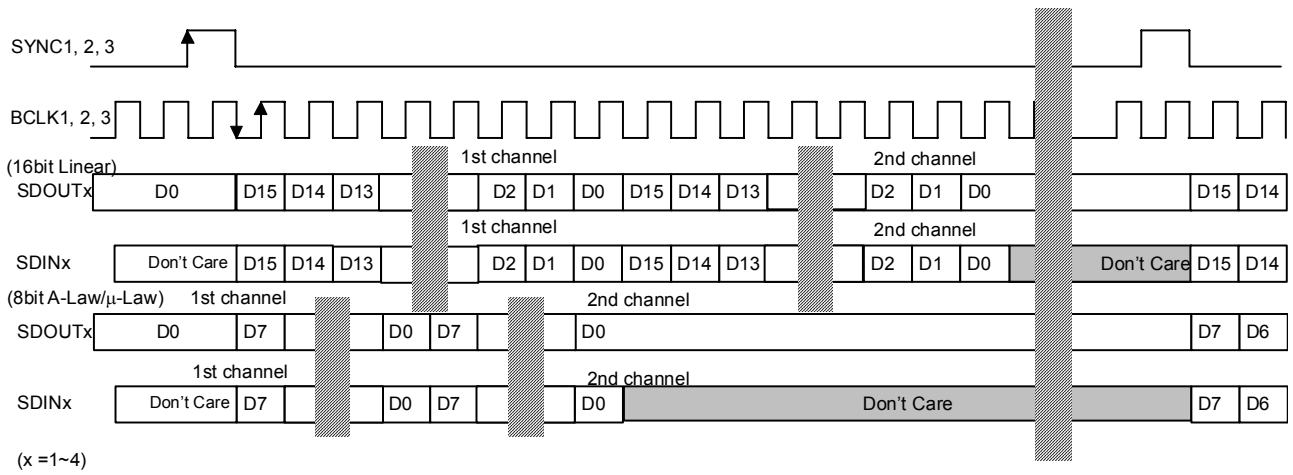
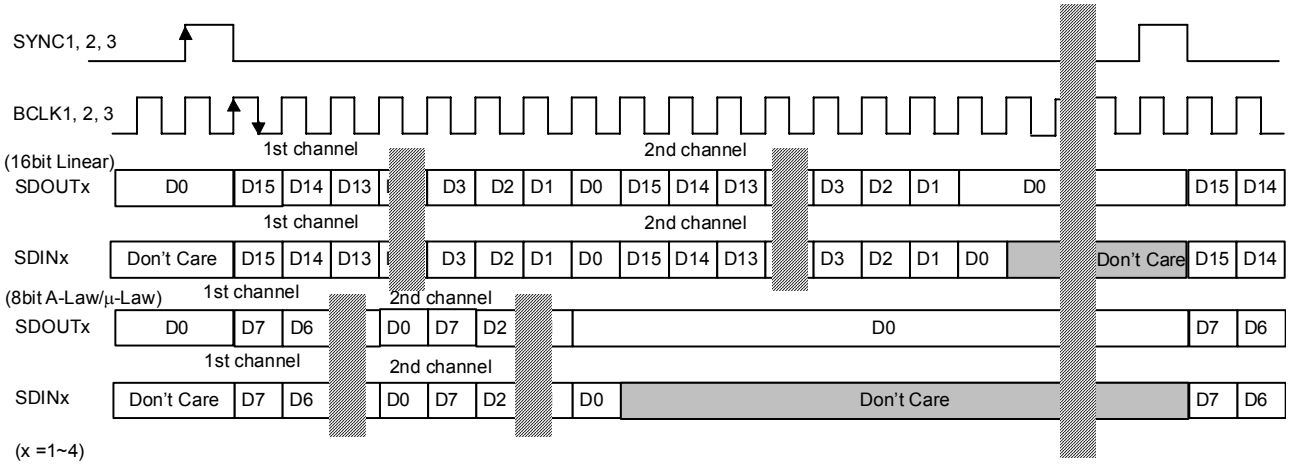
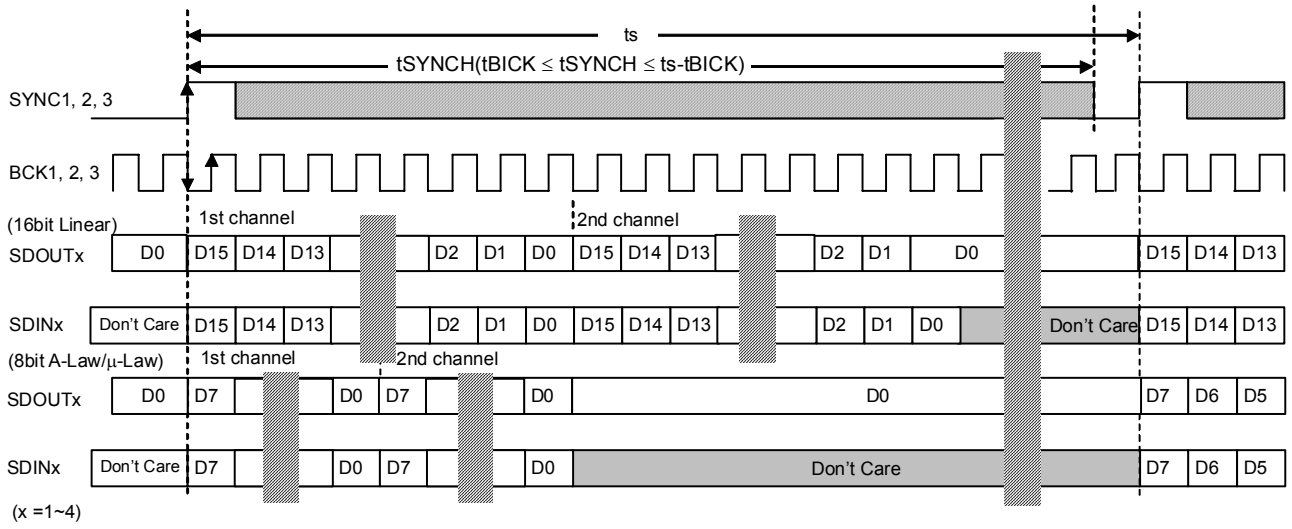
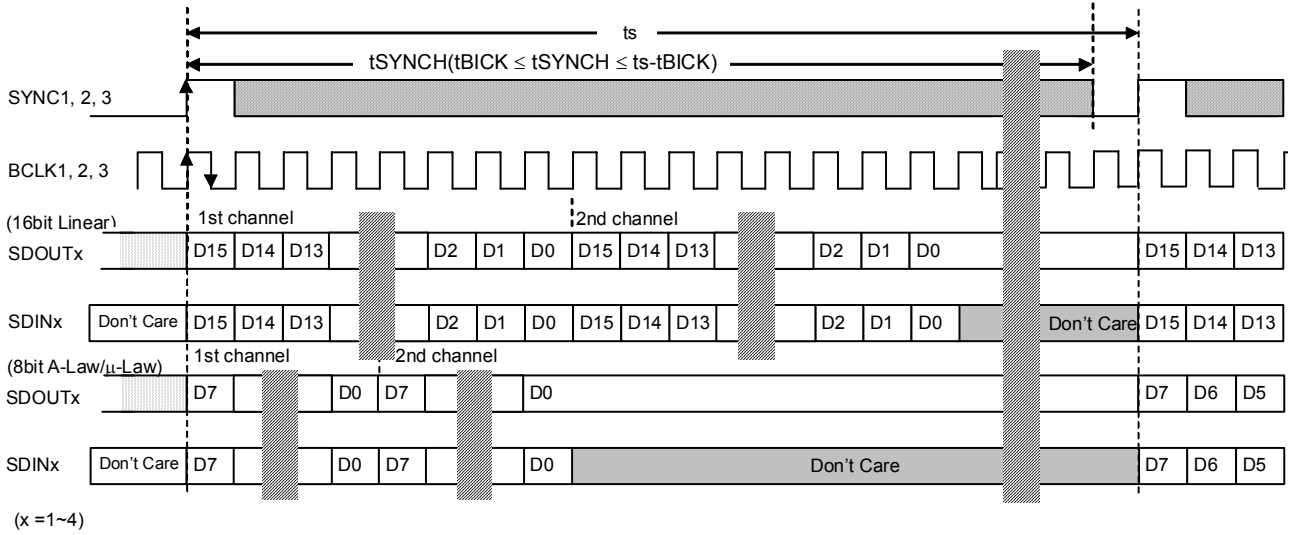

Figure 110. PCM Short Frame Falling-edge (LAW bits = “00”, DIFD bits = “00”, BCKPD bit = “0”)
Figure 111. PCM Short Frame Rising-edge (LAW bit = “00”, DIFD bits = “00”, BCKPD bit = “1”)
Figure 112. PCM Long Frame Falling-edge (LAW bit = "00", DIFD bits = "01", BCKPD bit = "0")
Figure 113. PCM Long Frame Rising-edge (LAW bit = "00", DIFD bits = "01", BCKPD bit = "1")
In format mode 1/2, PCM data format is selected by BCKPD bit (Table 126). SDOOUT output data and SDIN input data are latched and output on the falling or rising edge of BCLK. Refer to: Figure 110-Figure 113 for selectable format of BCLK against SYNC1/2 edge.
| 0 | falling (FE) | Figure 110 Figure 112 |
| 1 | rising (RE) | Figure 111 Figure 113 |